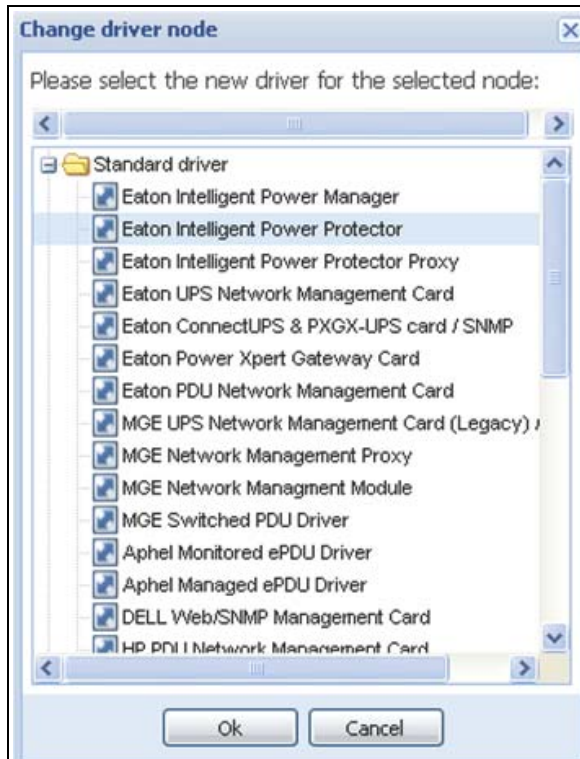

Figure 18. Change Driver Mode Dialog Box
2. From the right-side panel, select **Change driver node** (see Figure 18).